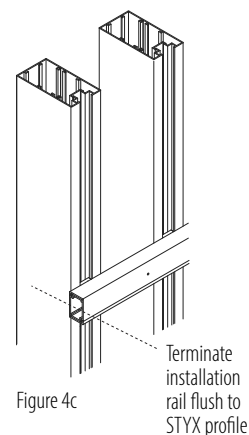

Figure 4c
- Position the first STYX profile to sit on the left-most Quick Lock. (Figure 4c) Ensure the bottom of the STYX profile is at the desired height.